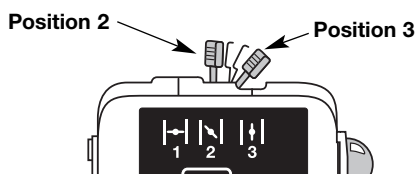

Fig. 14
7. Place the choke lever in **Position 2** (Fig. 14).
10. Place the choke lever in **Position 3** (Fig. 14). The unit is ready for use.